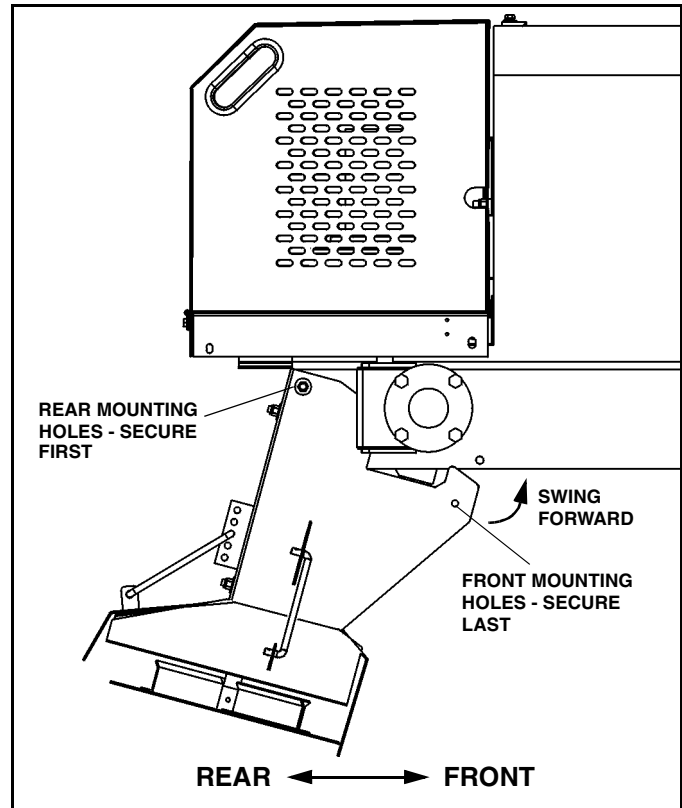

Figure 1-1
1. Loosely attach the two rear mounting holes of the Chute/Spinner Assembly using two 3/8" x 7/8" bolts, flat washers, and nylock nuts, with the heads of the bolts on the inside of the chute. Allow the Chute Assembly to hang, as shown. Do not tighten the bolts. (See Figure 1-1).